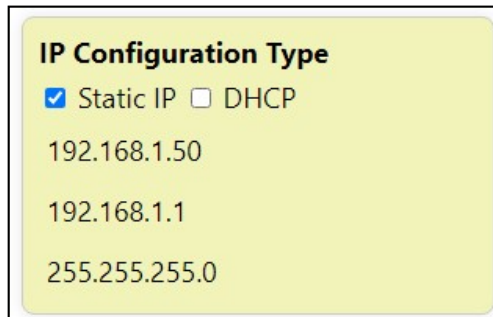

Figure 53: Static IP Configuration
1. **Static IP:** Selecting this option allows user to manually assign fixed network settings to ensure consistent connectivity and access. User enter an IP address, subnet mask and gateway according to their specific requirements. It is crucial to enter the correct format for the IP address, subnet mask and gateway. Entering an incorrect format will display an error message on the screen. Refer to Fig 53 for an example of Static IP Configuration.